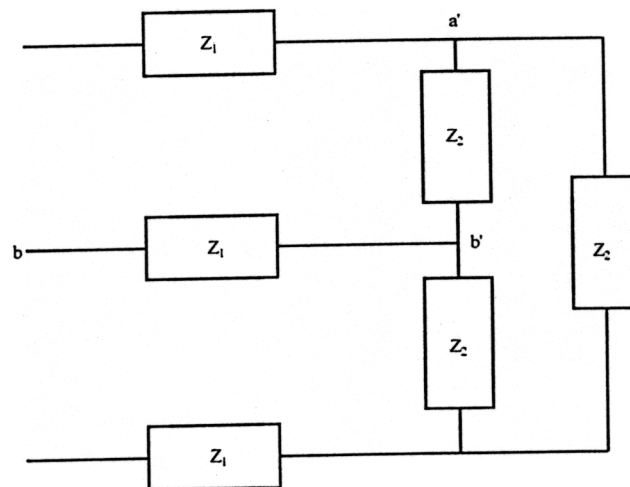

Figure 1
- h. In the circuit of Figure 1 below,  $Z_1 = 1 \angle 60^\circ \Omega$  and  $Z_2 = 5 \angle 36.9^\circ \Omega$ . The line-to-line voltage is 208 V. What is the magnitude of the line current?